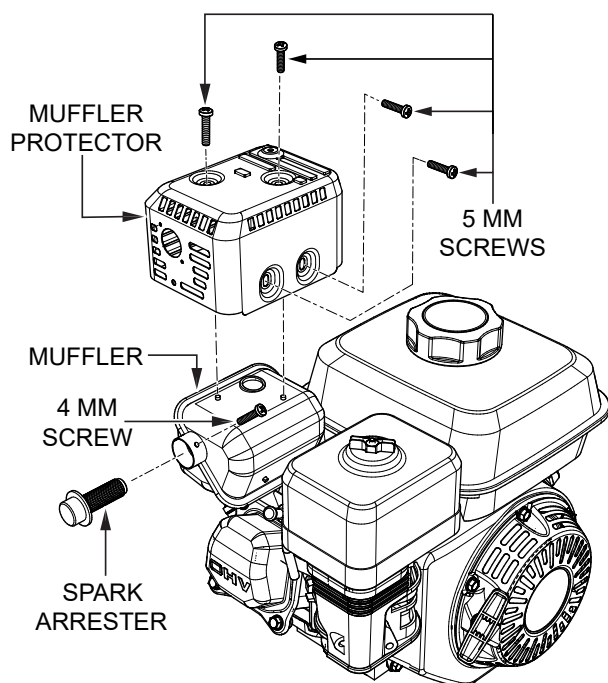

Figure 62. Spark Arrester Removal
1. Remove and retain the four 5 mm screws securing the muffler protector to the muffler (Figure 62). Remove the muffler protector and set it aside.
2. Remove and retain the 4 mm screw securing the spark arrester to the muffler, and remove the spark arrester (Figure 62).